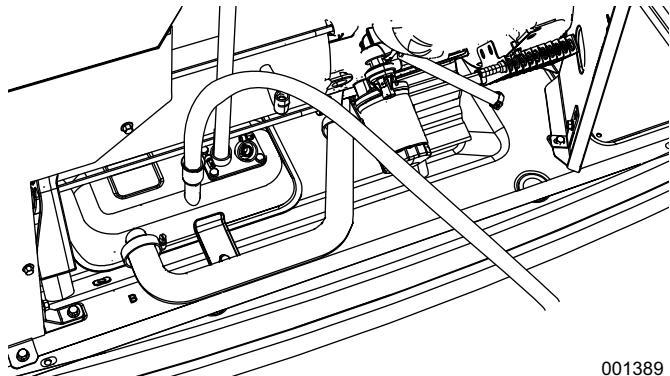

Figure 4-8. Drain Hose In Oil Tank
8. See **Figure 4-8**. Insert the $\frac{1}{4}$ in. hose free end into the unit's oil tank.